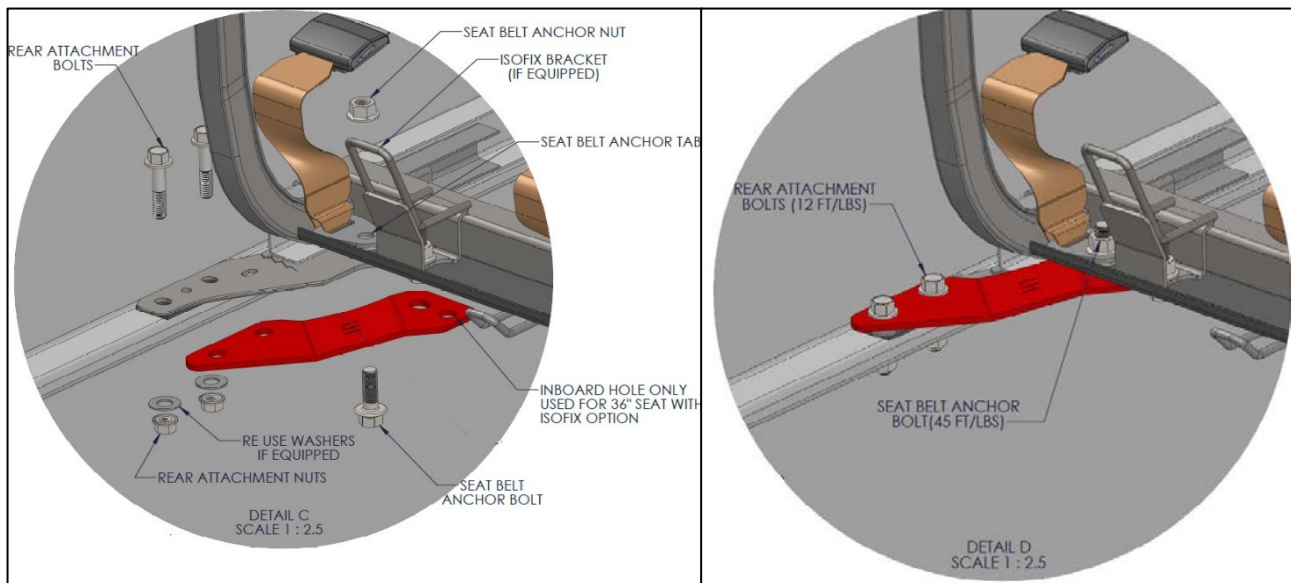

Figure 14: Bracket Installation – Thin Back – 30 Inch Seats (Driver's Side Shown)
3. Place the new bracket over the top of the original bracket (TBB 220622 for driver's side or TBB 220623 for curb side). See **Figure 14**.